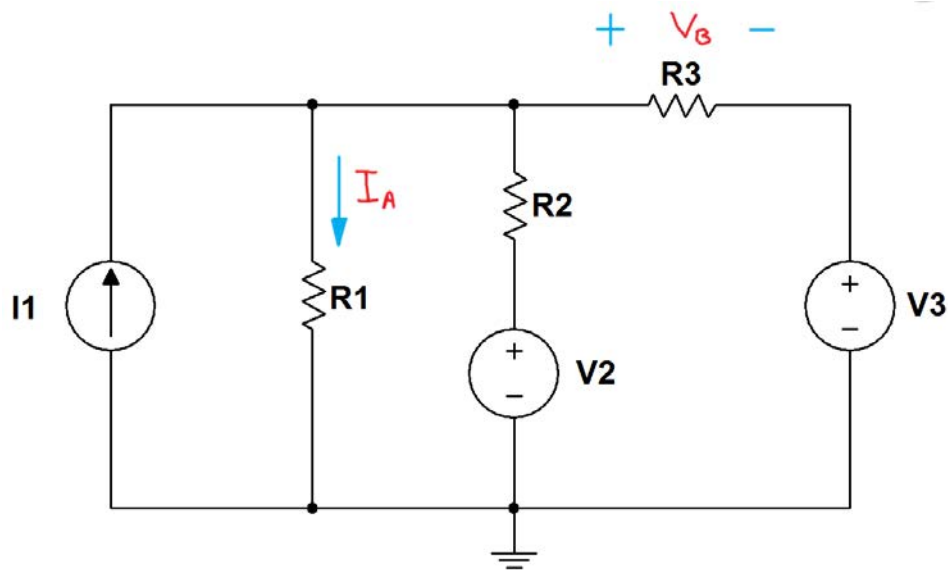

Figure 3.4: Circuit for Problem 3.3
Enter the circuit of Figure 3.4 on the facing page into NI Multisim. Use interactive analysis and the voltmeter and ammeter indicators.
1. Build the circuit of Figure 3.4 on the preceding page. Use the myDAQ DMM to measure I_A and V_B when all sources are active.